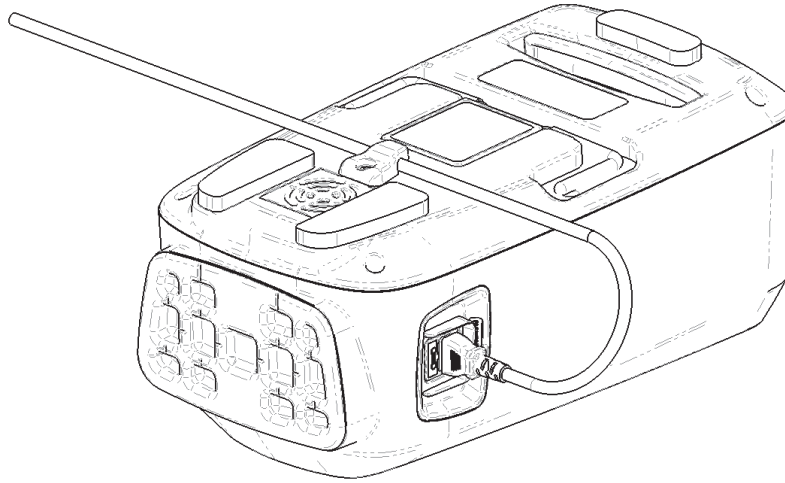

Figure 9 – Power cord secure
8. Secure the power cord (Figure 9).